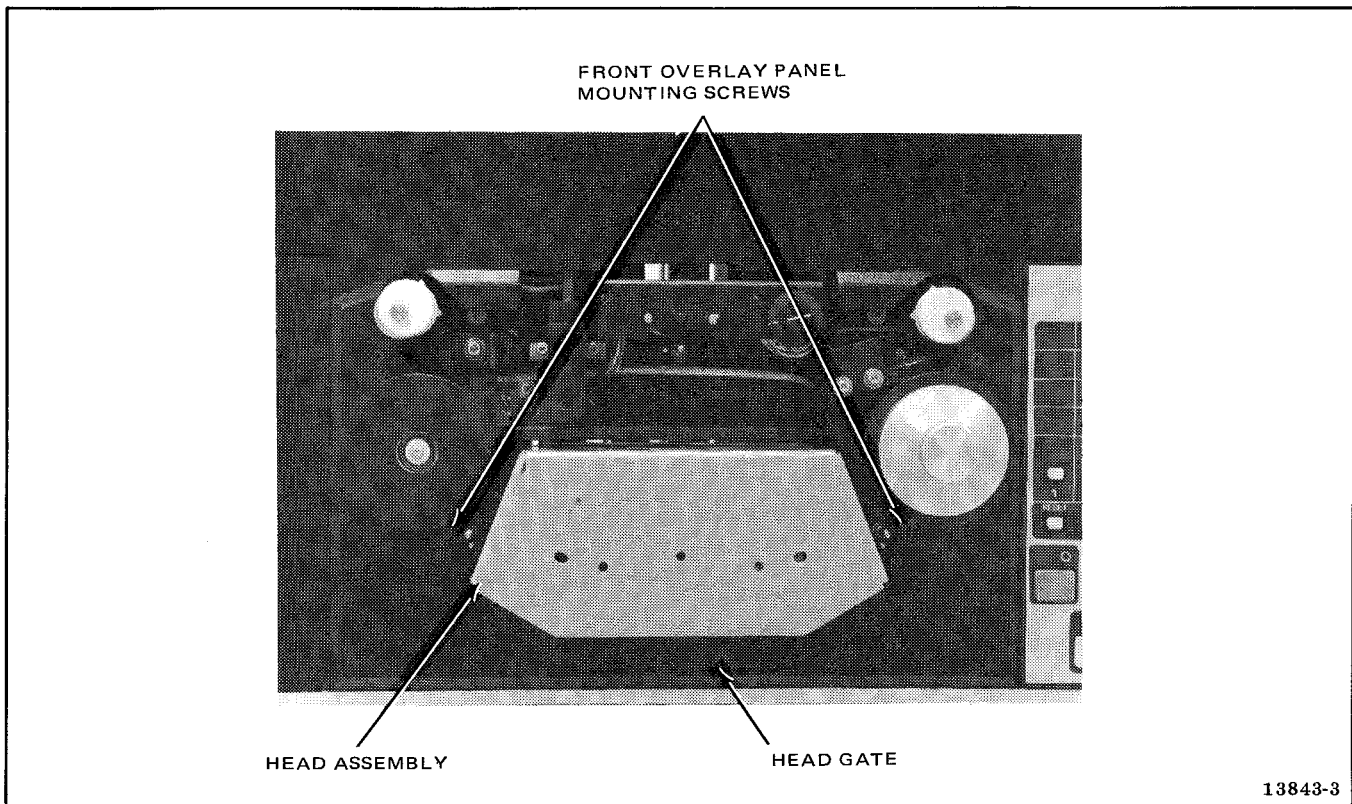

Figure 5-28. Top View of Transport, Head Cover Removed
**5-65. Head Gate.** The movable head gate (Figure 5-28) shields the head assembly from electromagnetic interface pickup when the recorder/reproducer is in operation. The head gate does not normally need adjustment but, if required, perform the applicable adjustment procedure.